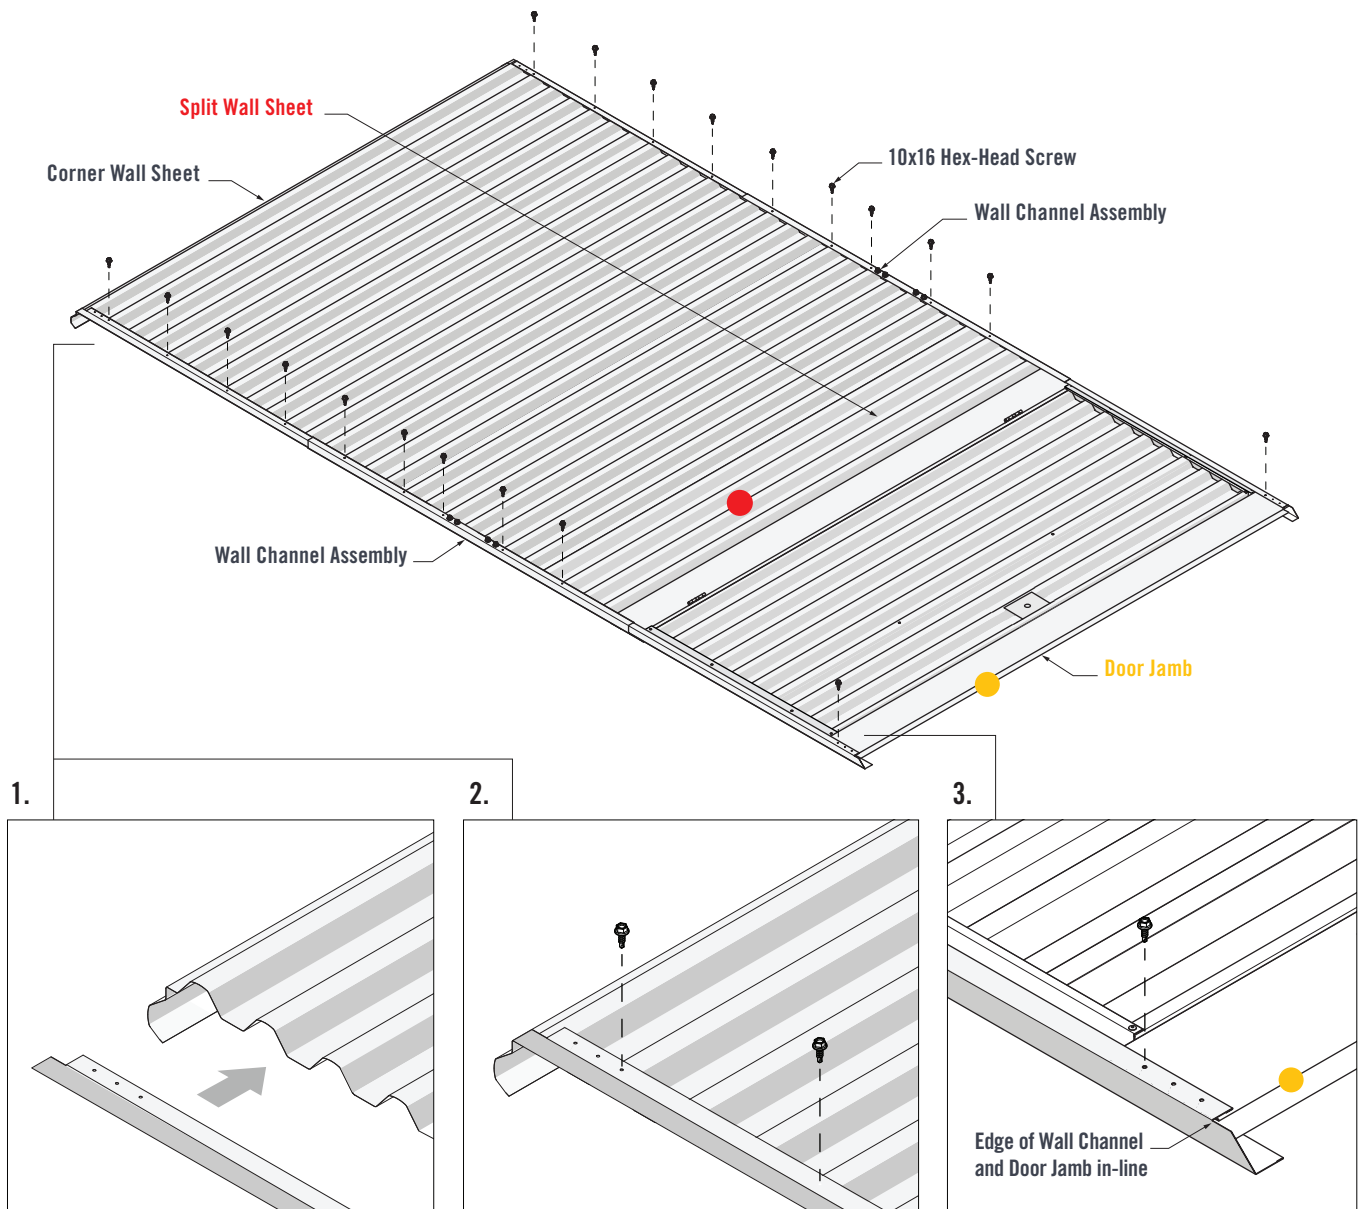

FIGURE 4.2
1. Fit two Wall Channel Assemblies over the lapped Wall Sheets and Door Jamb. The end of the Wall Channels should fit up against the end of the Corner Wall Sheet (Figure 4.2).
2. Fasten one 10x16 Hex-Head Screw through the third pilot hole of the bottom and top Wall Channels and into the Corner Wall Sheet crest. Fasten eight 10x16 Hex-Head Screws through the bottom and top Wall Channels and into every third Wall Sheet crest (Figure 4.2).
3. Ensure the edge of the Wall Channels and Door Jamb are in-line. Fasten one 10x16 Hex-Head Screw through the third pilot hole of the bottom and top Wall Channels and into the Door Jamb (Figure 4.2).